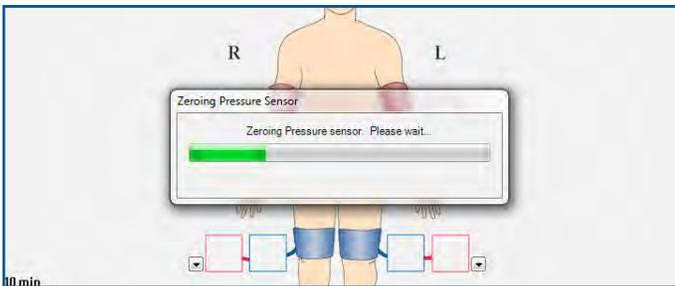

FIGURE 1.11 - Zeroing Pressure Sensor
9. Click the Test tab, then click “Perform...” to begin the test. Before testing, a progress bar will appear to indicate progress of automatic calibration, or pressure zeroing. (Figure 1.11).